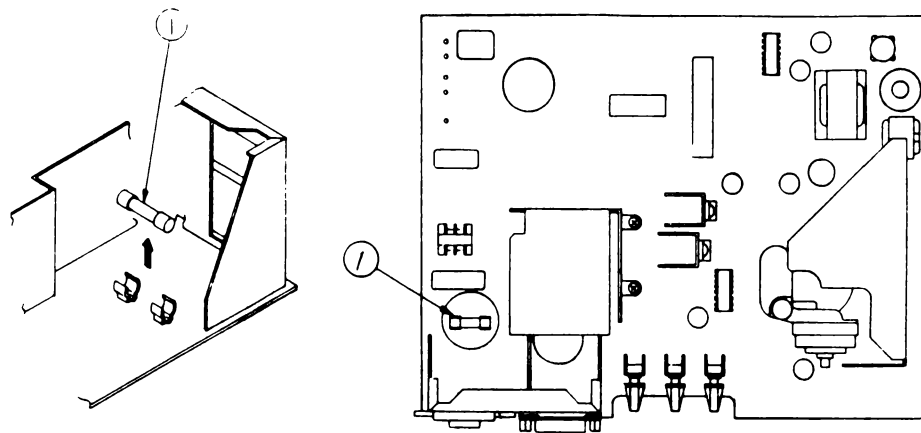

FIGURE 16
3. Locate fuse F901. It is mounted to the component side of the main logic board (Figure 16, #1).